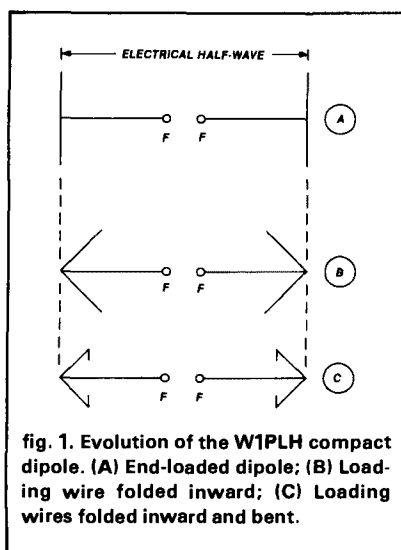
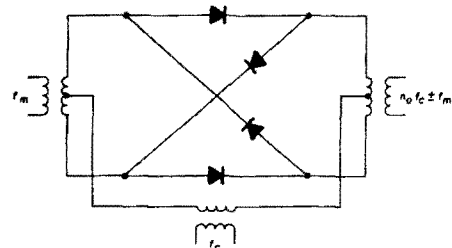

fig. 1. Evolution of the W1PLH compact dipole. (A) End-loaded dipole; (B) Loading wire folded inward; (C) Loading wires folded inward and bent.
fig. 2. Standard-level double-balanced mixer.
**fig. 1.** Basic theory behind audio blanking. An FET switch controls the audio to the main amplifier. Top diagram (A) shows series blanking; (B) shows shunt blanking.
His primary experiment was with a wire dipole antenna (fig. 1). To make a more compact antenna, he shortened the dipole and added "wings" on the end. When the wings were short and at right angles to the dipole, the input impedance and performance were comparable to that of the original dipole. Bandwidth (frequency span between high SWR points on either side of the resonant frequency) was somewhat improved.
fig. 2. This looks like a quad but it is an oblique view of a Yagil. Folded and loaded elements are used in the W1PLH compact beam antenna. Elements are made of wire and strung on X-frames in the manner of a quad. A quarter-wave matching transformer and balun feed the beam at points F-F, as shown in fig. 3.
back upon themselves until the antenna looked like the third illustration of fig 1. This was to be the basic element of the W1PLH Yagi (fig. 2). The beam is about 5 feet 7 inches on a side, with five-foot-seven-inch spacing between driven element and reflector. Design frequency is 21.2 MHz.
Fig. 2 shows the ring or lattice double-balanced modulator as frequently used, and fig. 3 shows the latest two most important derivatives of the double-balanced mixer, the two ring configuration and the termination-insensitive mixer. It has been explained very carefully in the literature2 that all passive mixers are highly sensitive to changes in termination. The reason for this is that the non-zeroing effect of reactive currents at the output generates reflections inside the bridge and, therefore, causes distortion.